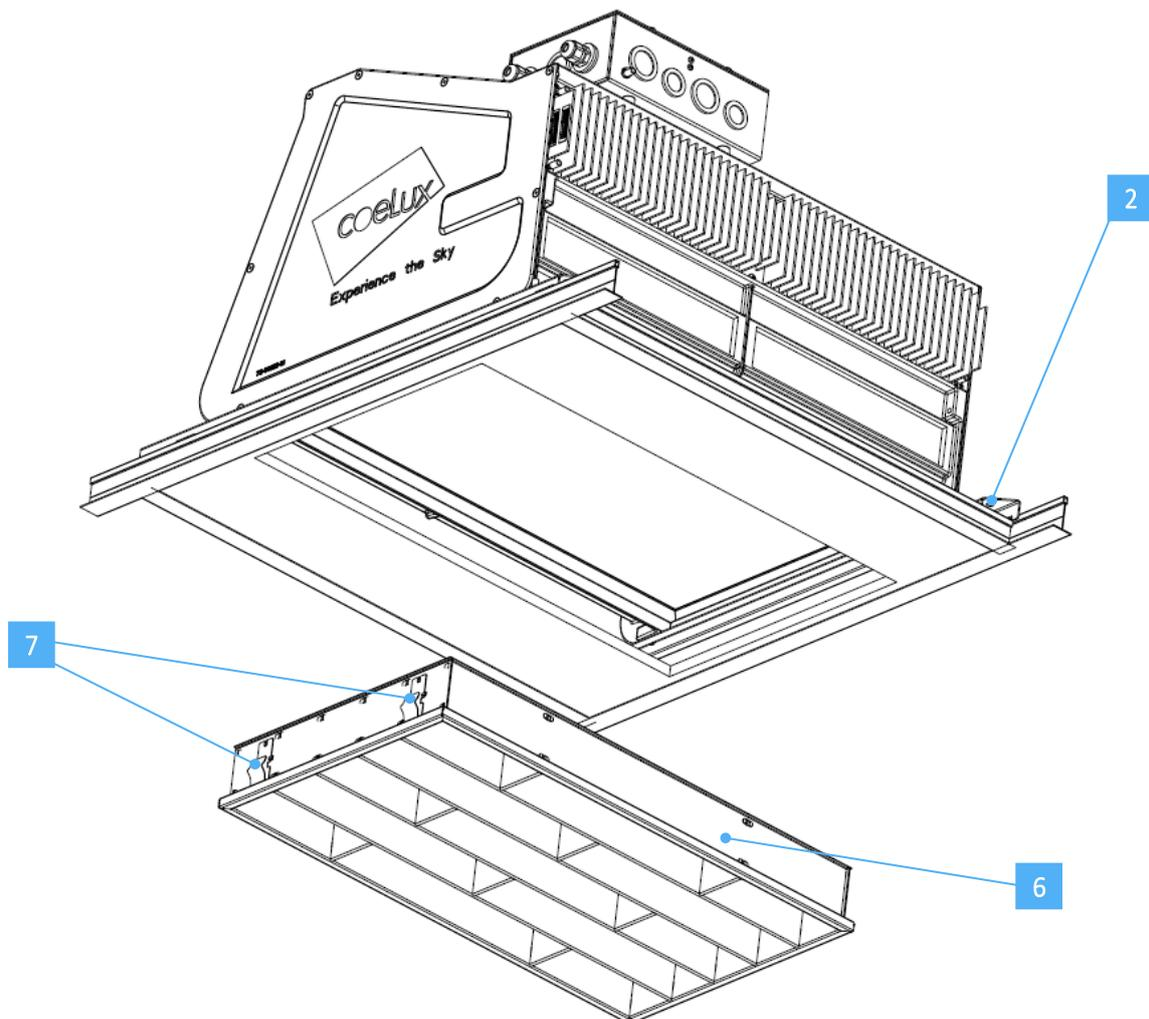
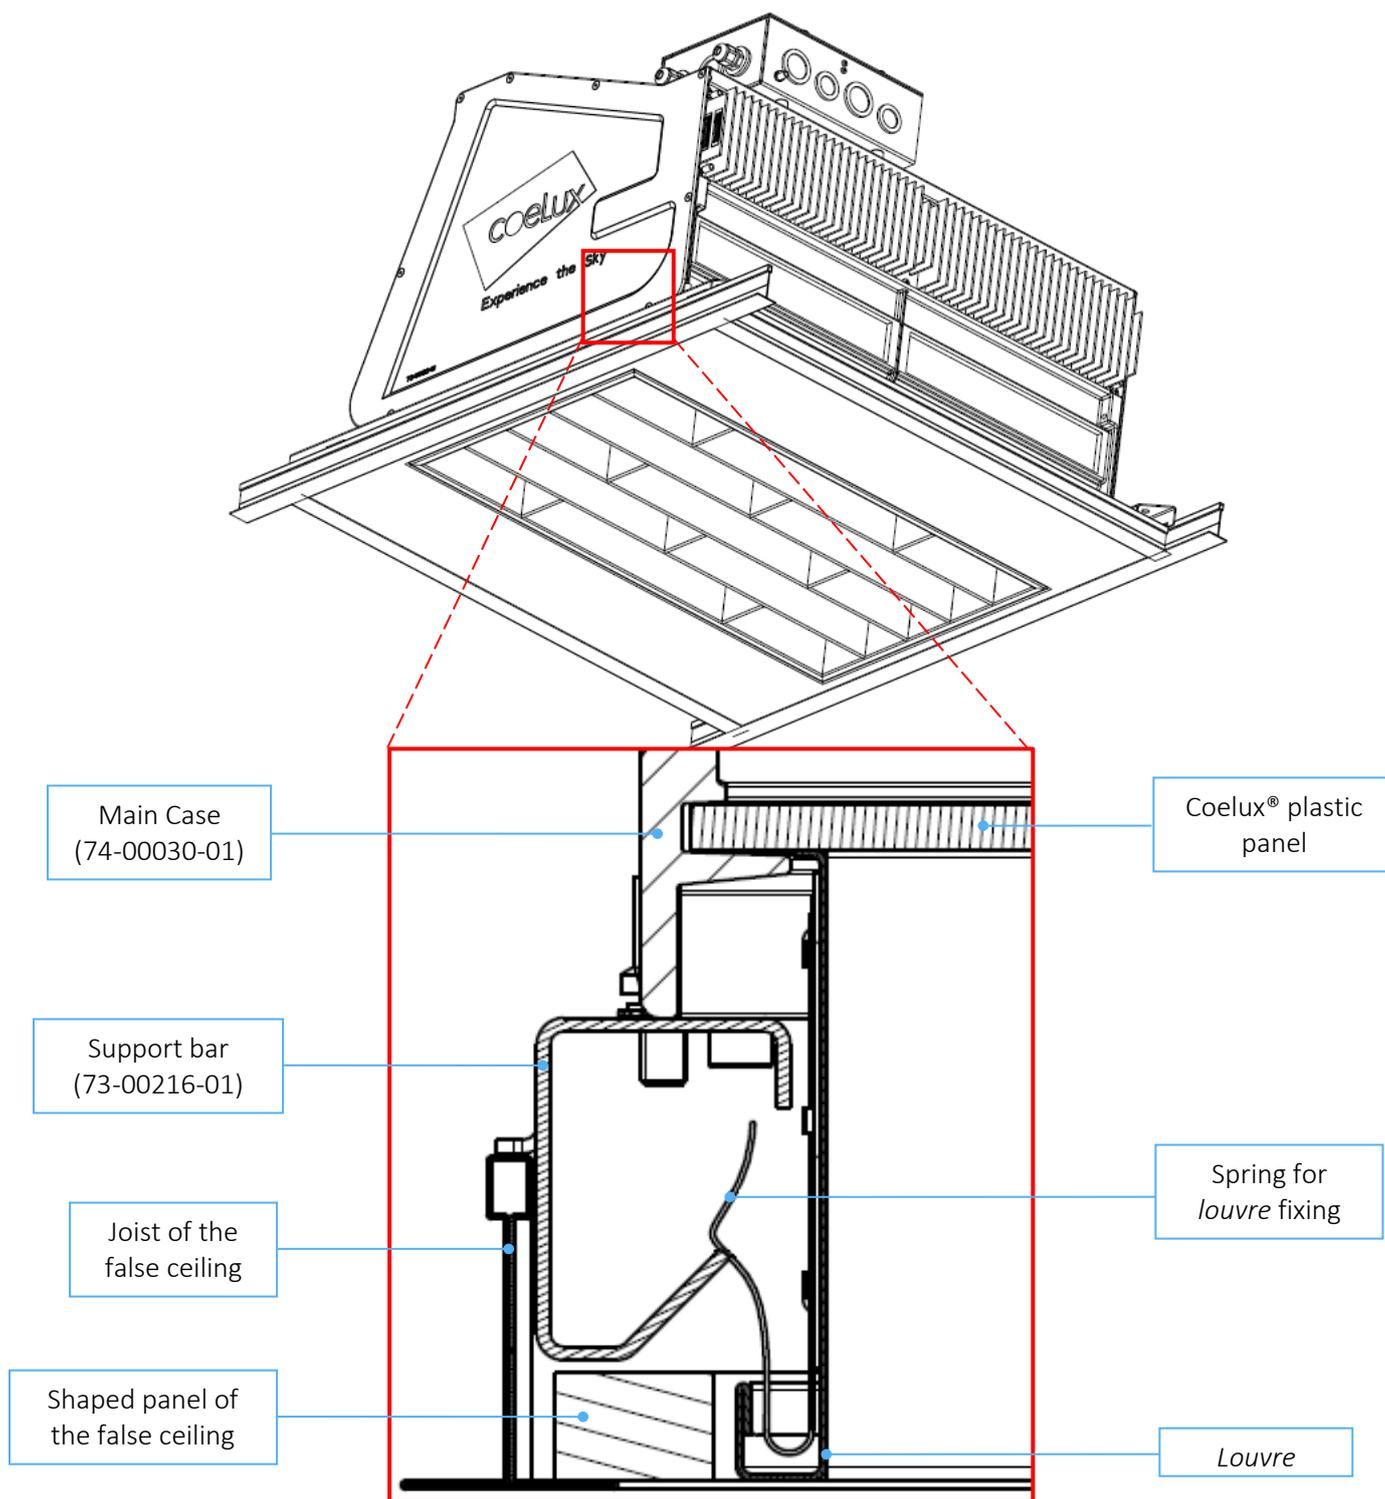

Fig. 7
Fig. 8
- D. Raise the louvre [6] (Figure 7) and push it towards the panel until the 4 springs [7] clip on to the support bars [2] (detail in Figure 8).